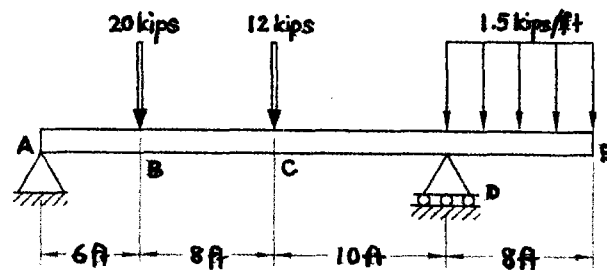

Figure 1/Gambarajah 1
1. Draw the shear-force and bending-moment diagrams for the beam and loading shown in **Figure 1**.